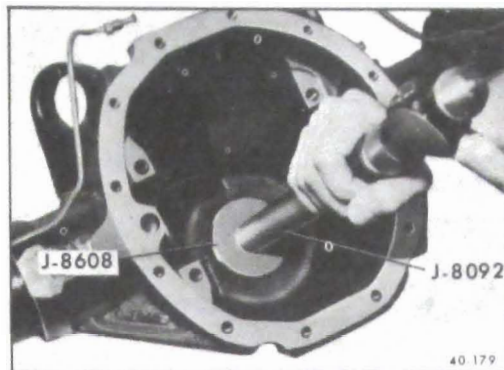

Figure 40-191 - Installing Rear Pinion Bearing Outer Race
2. To install the rear pinion bearing outer race use Installer J-8608 and Drive Handle J-8092. See Figure 40-191.